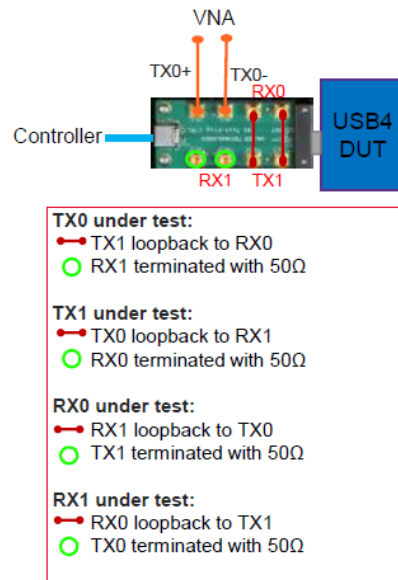

Figure 82 SMP test fixture - Tx/Rx lane switching
- 8 In case of SMP test fixture, Tx/Rx lane under test can be switched as shown in Figure 82.